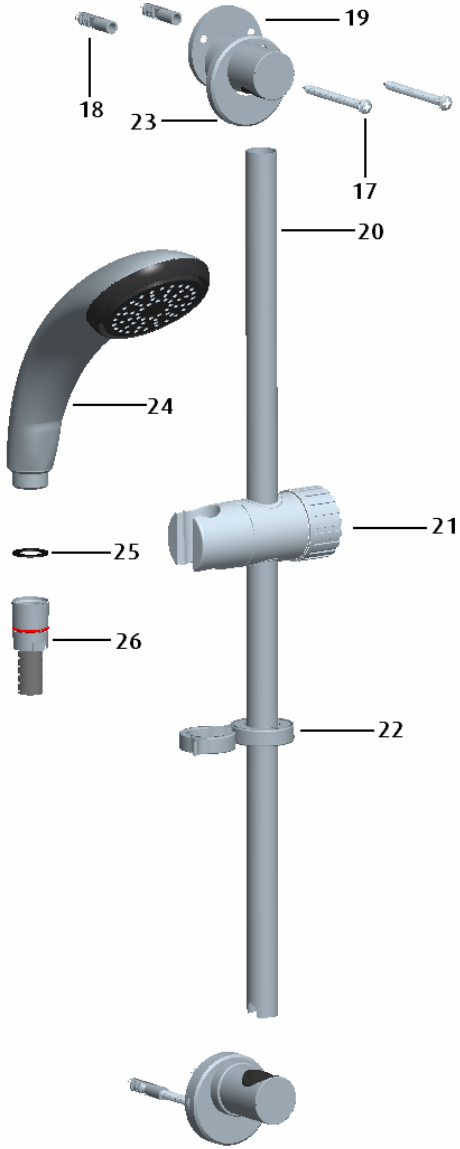

Fig. 2a
4.3 Single Function Adjustable Riser Installation (See Fig. 2a, page 7)